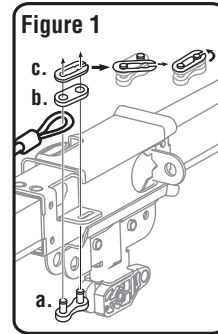

Figure 1
2. Connect the cable to the retaining slot on the trolley. (Figure 1)